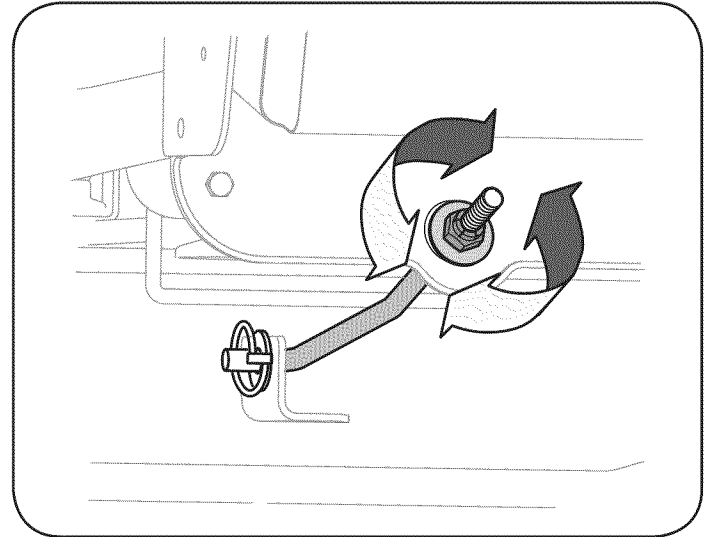

Figure 27
1. To **raise** the front of the deck, tighten (thread inward) the lock nut against the front hanger bracket. See Figure 27.
2. To **lower** the front of the deck, loosen (thread outward) the lock nut, away from the front hanger bracket. See Figure 27.